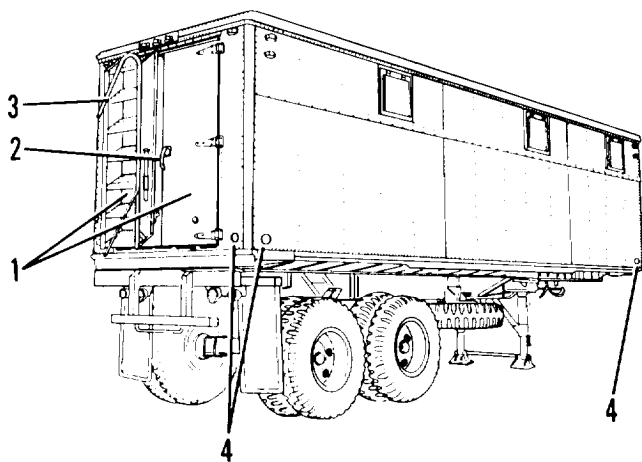

Figure 2-14. Van body
- a. Two doors (1, figure 2-14) at rear of body.
- b. Door lock, latch and handle (2) on right rear door.
- c. Detachable step ladder (3) with adjustable legs mounted on left rear door. Used in entering and leaving semitrailer.
- e. Eight reflectors (4) are located on body as follows: